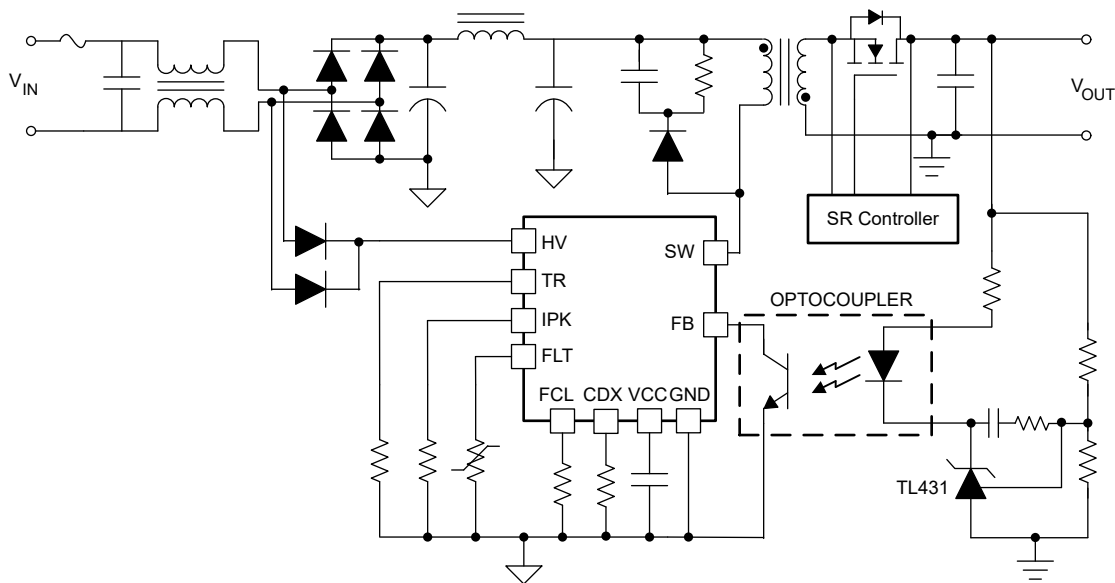

Figure 7-1. AC/DC Flyback Converter Schematic Using UCG2882x
Connect the high voltage (HV) pin to the two ends of the X-capacitor at the line input, through two diodes as shown in Figure 7-1. HV pin charges the bias supply (VCC) capacitor at start-up. The HV pin also discharges the X-capacitor when the input line voltage is removed. When X-cap discharge is not needed, this connection is still required to minimize standby power consumption. When designing for DC input applications, the HV pin can be directly connected to the input bulk capacitor with corresponding resistor setting on the CDX pin to disable the X-cap discharge feature. The standby power consumption is slightly increased in DC input applications.